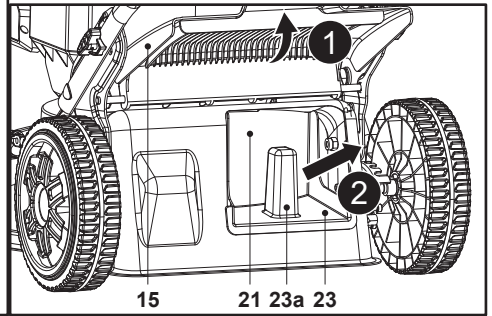

Fig. 13
2. Hold the mulching insert handle (23a) and pull the mulching insert (23) out of the rear discharge chute (21), then remove the mulching insert (23) (Fig. 13).